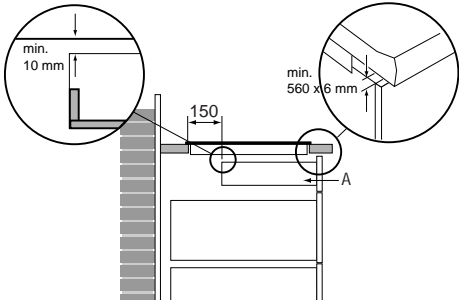

Fig. 11: Drawer under hob
- Where there is a drawer, a gap of at least 560 x 6 mm should be made at the front (see fig. 11). **Attention!** A drawer may not close off the ventilation openings on the underside of the appliance.
- The distance between drawer A and the hob should be at least 10 mm. No extra modifications for ventilation need be made where there is a fixed panel (see fig. 11).